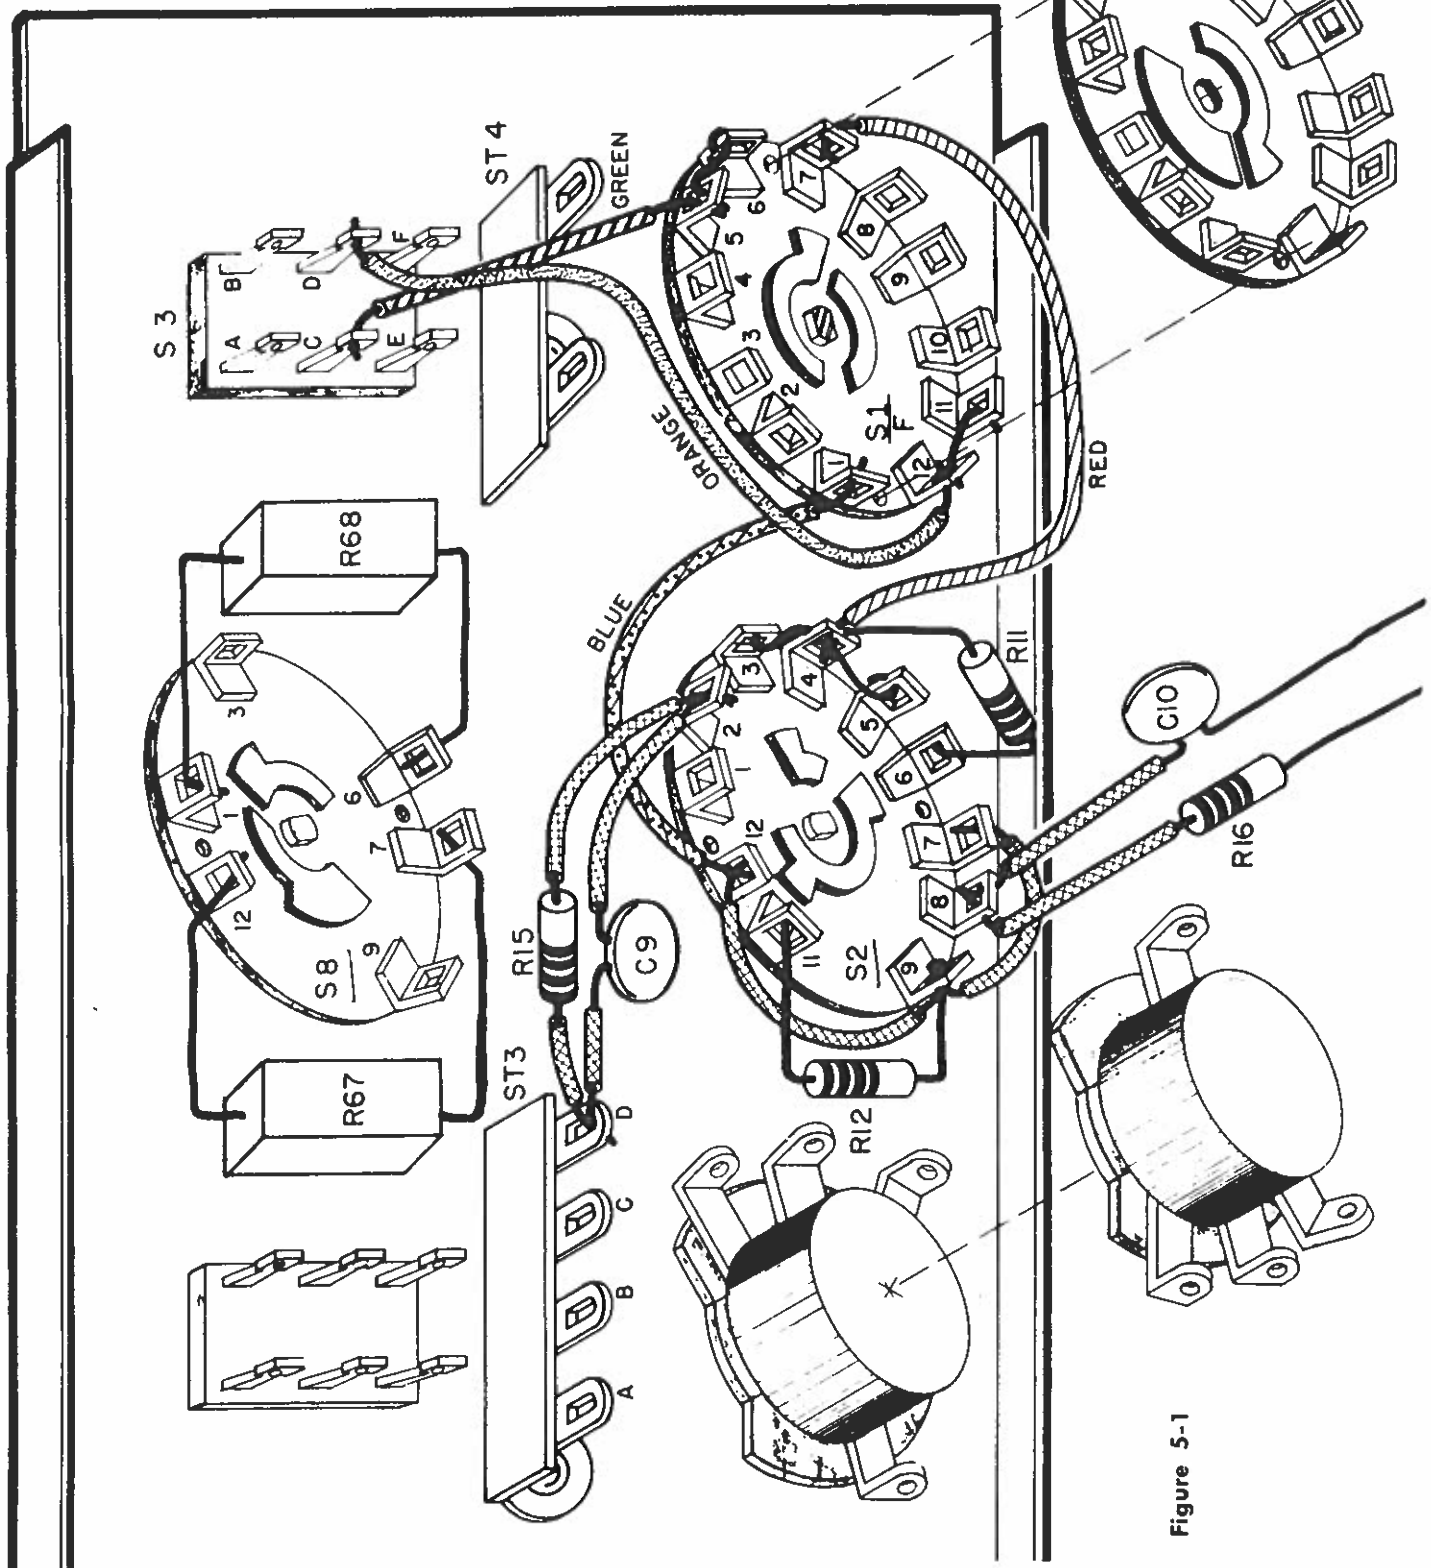

Figure 5-1
Refer to Fig. 5-1 for the following steps.
**Step 5N** ✓ Connect one end of the green wire to center lug C of switch S3. Dress it as shown in Fig. 5-1 and connect the other end to lug 5 on the front deck of switch S1.